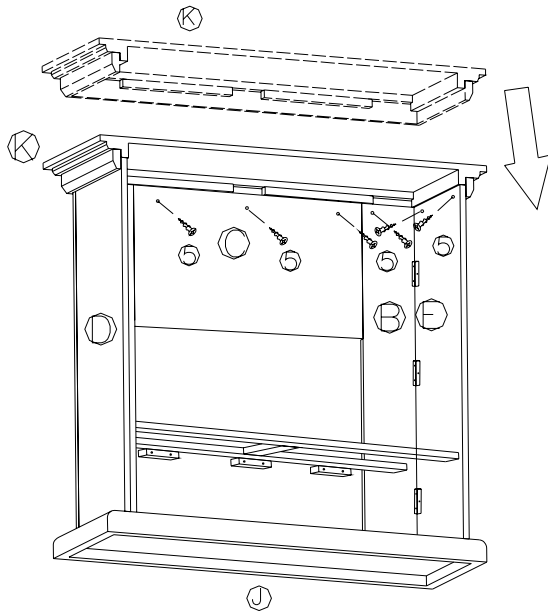

**FIGURE 4
6. INSERT WOOD SCREWS (5) THROUGH PREDRILLED HOLES ON WOOD BARS ON PARTS (C, H, I) AND TIGHTEN INTO CORRESPONDING HOLES ON PARTS (D, E, F). AS FIGURE 4 SHOWN.